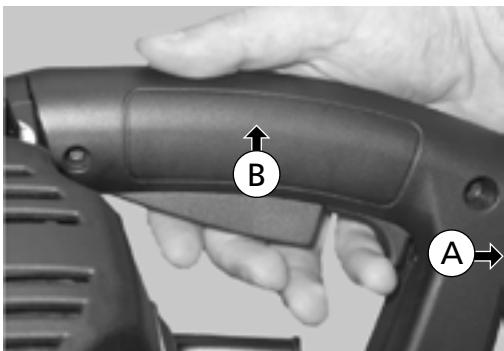

Fig. 11
To start up the band saw first press back the unblocking actuator (A) and then raise the start up actuator (B) - (Fig. 11).